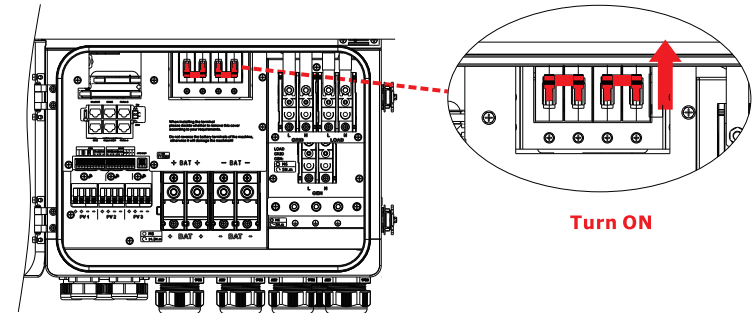

Figure 5.1-1
- **Make sure that the battery switch inside the inverter turn on.(Figure 5.1-1)**